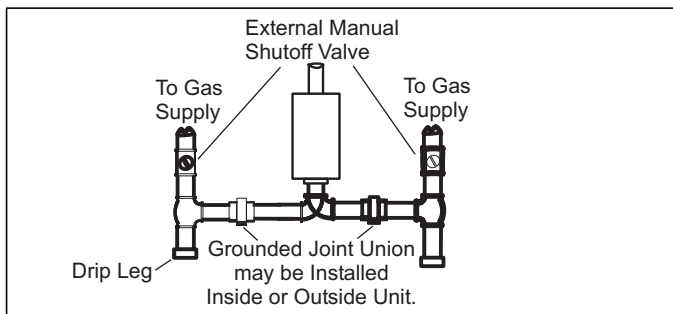

FIGURE 6: Gas Piping
2. Check that the manual gas shut-off valve in the gas piping supply is turned to the ON position. Refer to Figure 6.